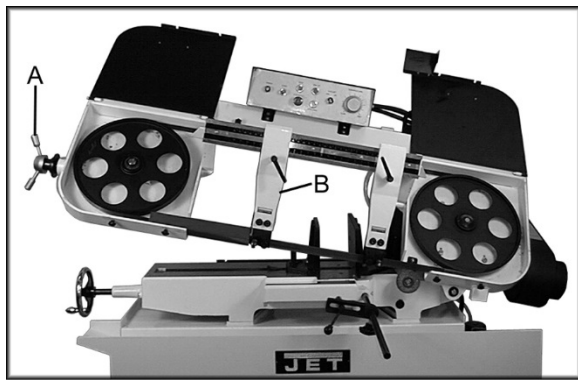

Figure 8
4. Release blade tension by turning blade tensioning handwheel (A, Figure 8) counterclockwise until blade is free.
5. Loosen lock handle and slide left blade guide arm (B, Figure 8) to the right as far as possible. Remove old blade from both wheels and out of each blade guide.